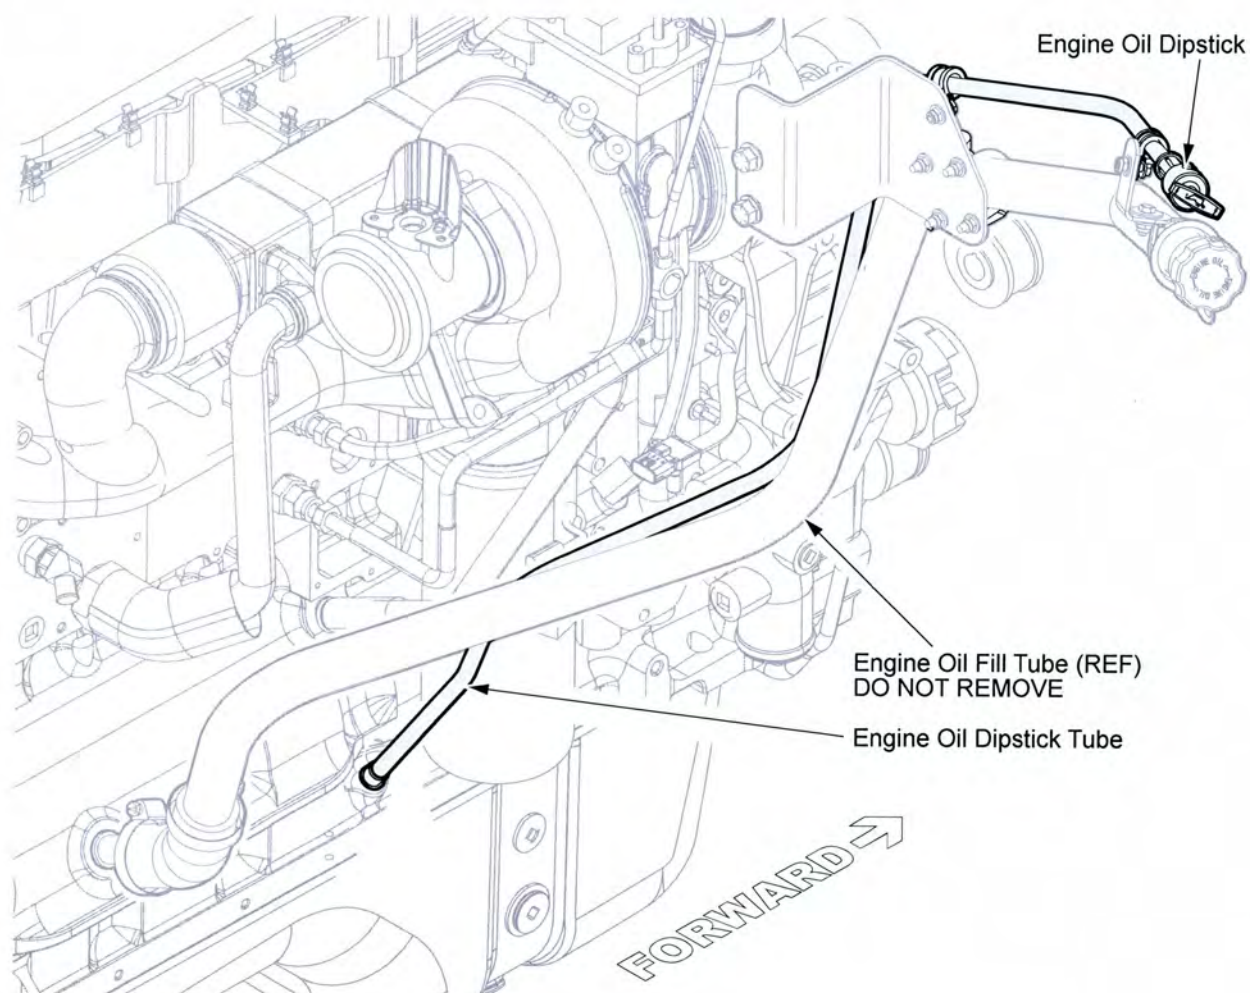

Figure 1
1. At the rear of the cab, locate the engine oil dipstick and engine oil dipstick tube (see Figure 1).
2. Remove the engine oil dipstick and engine oil dipstick tube from the engine and discard (see Figure 1). Set aside all clamps and fasteners for reinstallation in step 7.